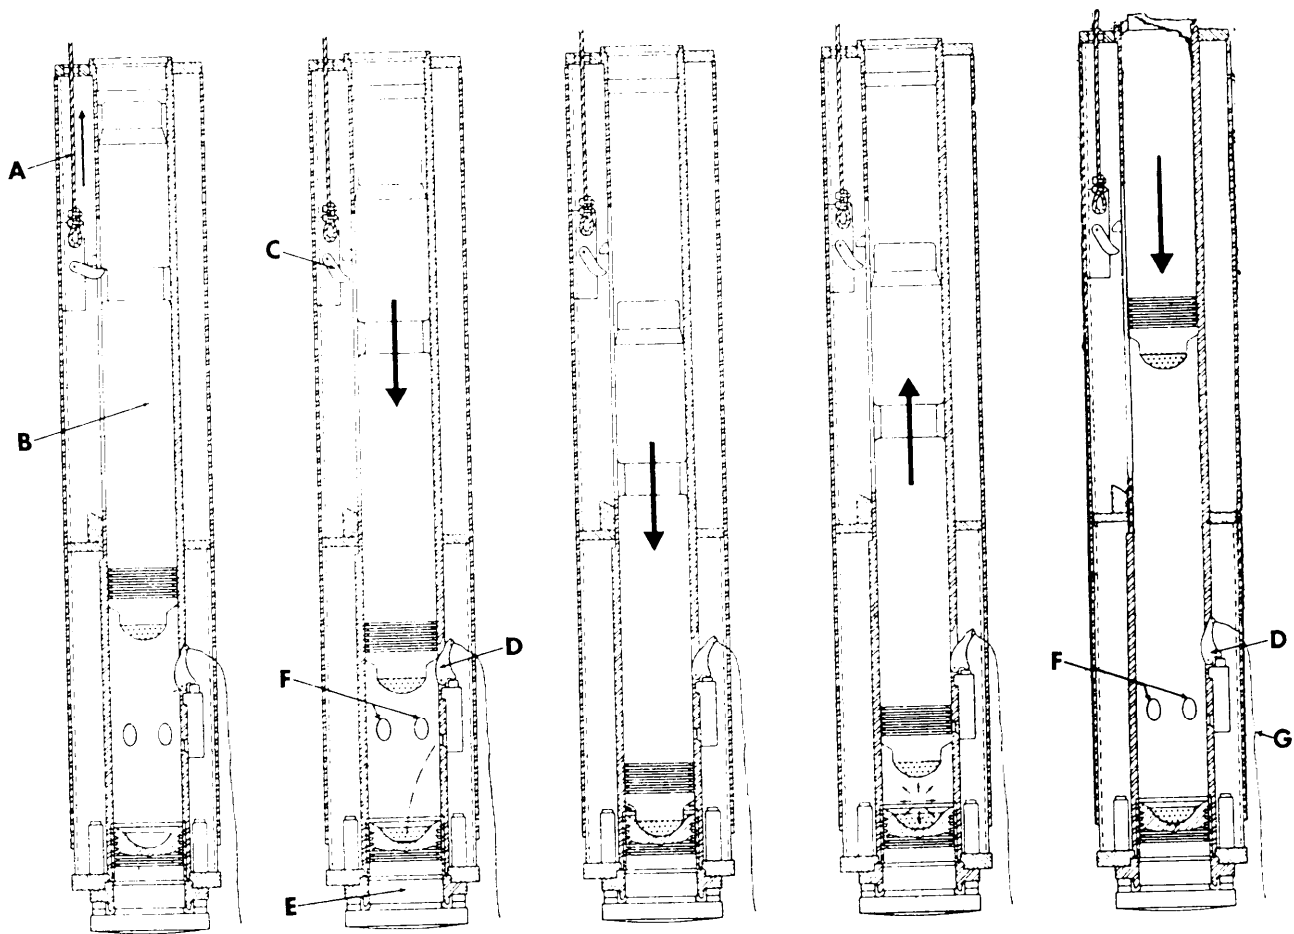

Figure 12-61.-Operating principles of the McKiernan-Terry diesel pile hammer.
The most common diesel hammer used in the NCF is the DE-10 McKiernan-Terry pile hammer shown in figure 12-61. The hammer is lifted and started by a single crane load line connected to a **trip mechanism** (A). The hammer is started by lifting the ram piston (B) with the load line until the trip mechanism (C) automatically releases the ram piston. The ram piston falls and actuates the cam of the fuel pump (D) that delivers a measured amount of diesel fuel that falls into a cup formed in the top of the anvil (E). Continuing its downfall, the ram piston blocks the exhaust ports (F) and begins compression of air trapped between the ram piston and the anvil. The compression of the trapped air creates a preloading force upon the anvil, the drive cap, and the pile. The gravity propelled ram piston strikes the anvil, delivering its impact energy to the pile.